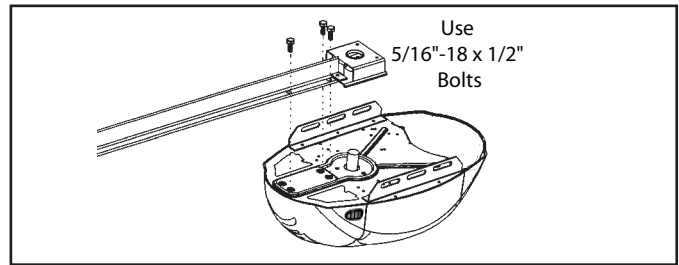

FIG. 1-2 Rail - Power head assembly.
1. Attach rail assembly to power head by aligning the sprocket onto the motor shaft. Use (3) bolts, 5/16"-18 x 1/2" (Fig. 1-2).
2. Tighten the belt by turning the adjustment nut clockwise. The belt adjustment nut is located in the Belt Pulley Bracket (opposite rail end from the power head) (Fig. 1-2).
3. Tighten belt until belt is approximately 1/8 inch above the base of the rail at midpoint on the rail (Fig. 1-2). Do NOT over tighten belt.